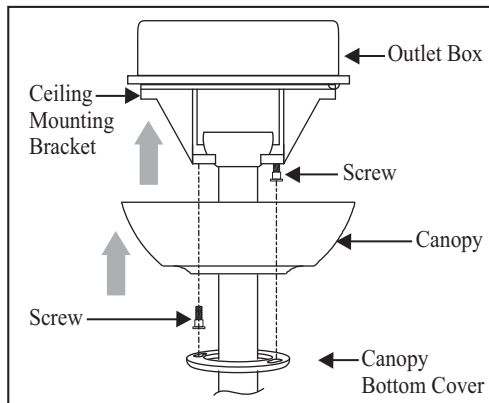

Figure 12
2. Slide the canopy up to mounting bracket and place the key hole on the canopy over the screw on the mounting bracket, turn canopy until it locks in place at the narrow section of the key holes. (Fig. 12)